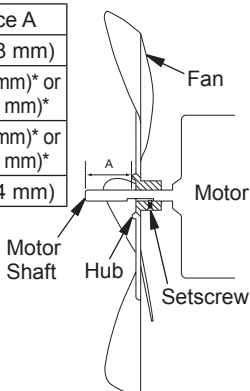

Figure 10 - Fan Cross Section
15. Replace fan on motor shaft. Place setscrew on flat of shaft. See chart in Figure 10 for distance of fan hub from end of motor shaft. Tighten setscrew firmly (40-50 inch-pounds).